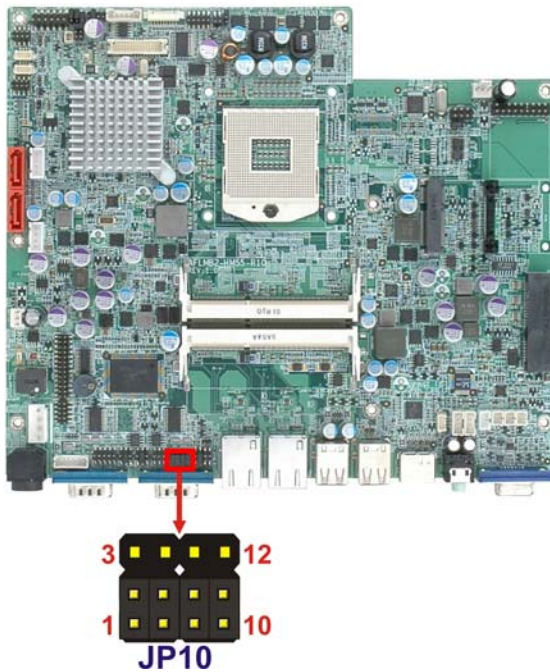

Figure 3-10: COM3 RS-232/422/485 Serial Port Select Jumper Location
- Jumper Location:** See **Figure 3-10**
The COM3 RS-232/422/485 Serial Port Select jumper location is shown in **Figure 3-10**.